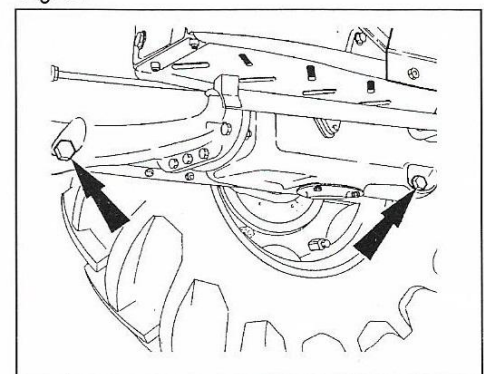

Fig. 95
3. Remove the two drain plugs (Fig. 95).